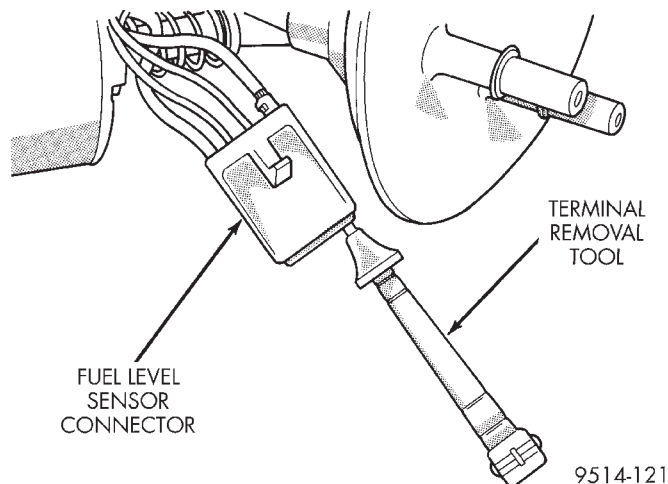

Fig. 21 Terminal Removal Tool
(2) Using Special Tool C-4334 terminal remover or equivalent, remove terminals from level sensor connector (Fig. 21).